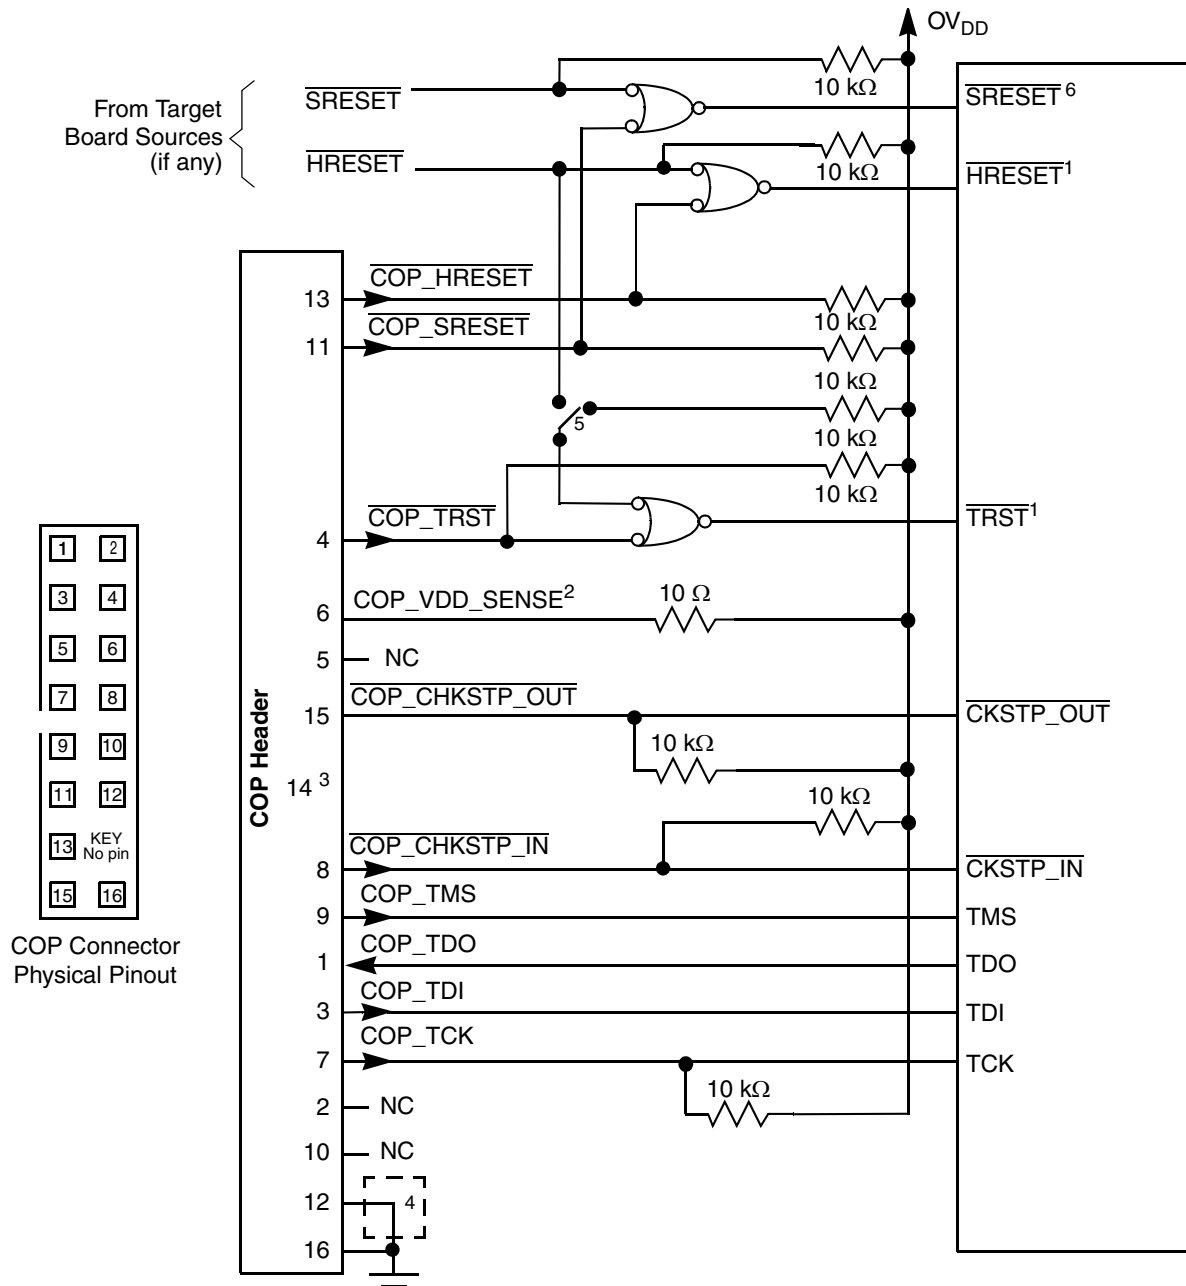

Figure 52. JTAG Interface Connection
Correct operation of the JTAG interface requires configuration of a group of system control pins as demonstrated in Figure 52. Care must be taken to ensure that these pins are maintained at a valid deasserted state under normal operating conditions as most have asynchronous behavior and spurious assertion will give unpredictable results.
- $\overline{\text{TRST}}$ should be tied to $\overline{\text{HRESET}}$ through a 0 k Ω isolation resistor so that it is asserted when the system reset signal ($\overline{\text{HRESET}}$) is asserted, ensuring that the JTAG scan chain is initialized during the power-on reset flow. Freescale recommends that the COP header be designed into the system as shown in Figure 52. If this is not possible, the isolation resistor will allow future access to $\overline{\text{TRST}}$ in case a JTAG interface may need to be wired onto the system in future debug situations.